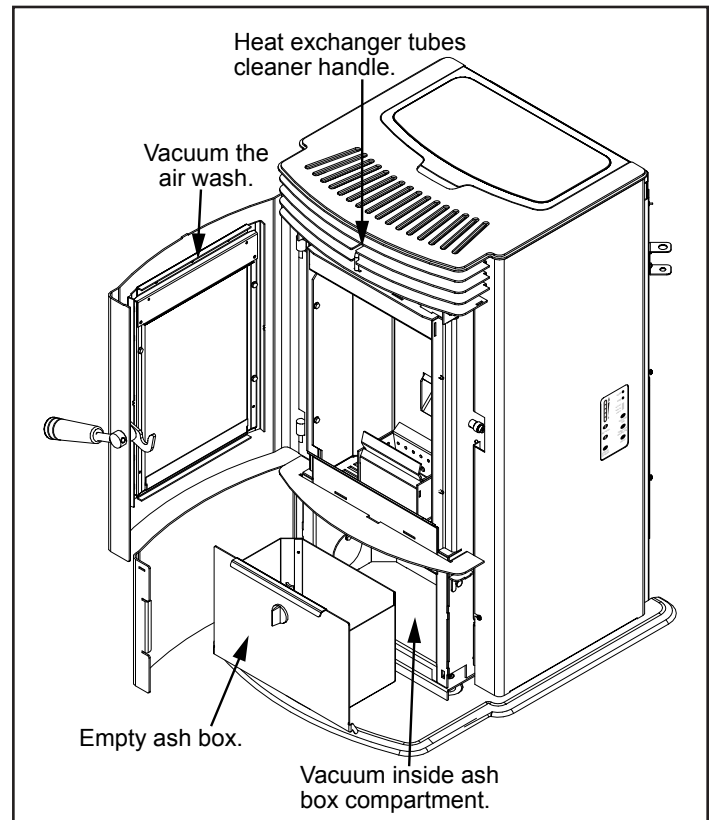

Figure 10: Mini Open
- Using a $\frac{5}{16}$ " socket, loosen the six (6) screws in the ash box compartment; four (4) on the back and one (1) on each side (see Figure 10).
- Vacuum out all three (3) chambers.